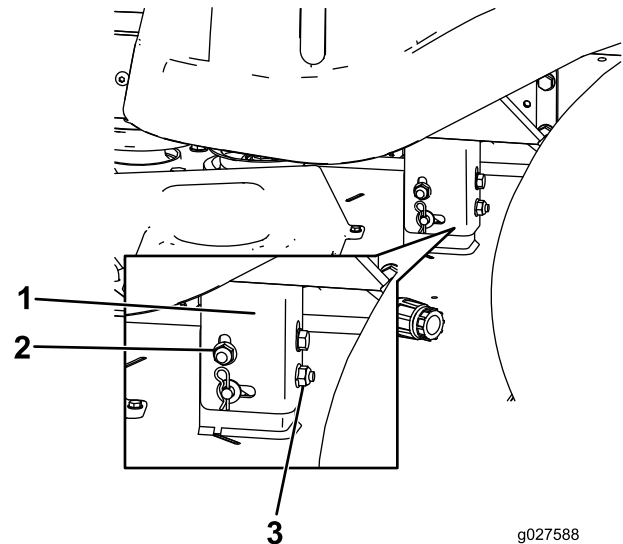

Figure 52
8. Raise or lower the left side of the mower deck by rotating the rear nut (Figure 52).